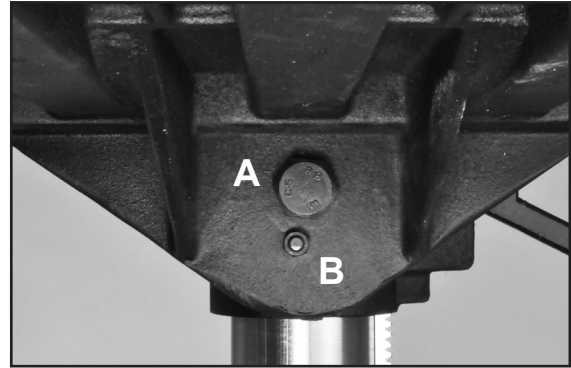

Figure 17
1. Loosen the large nut below the table support arm (A-Fig. 17). This requires a 30mm (1-1/4") socket or adjustable wrench, not included.
2. The small threaded pin with nut below the 30mm nut (B-Fig. 17) positions the table at 90°. *Tighten* the nut to withdraw the pin from its index hole in the support frame so that the table can be tilted from the pre-set 90° position.